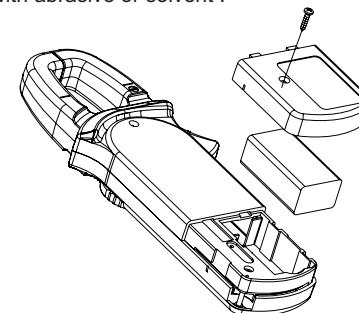

Figure 13
- ① Press the trigger and open clamp head to fetch measured conductor by clamp head then loosen trigger slowly until clamp head is closed completely. Please check if measured conductor is in the middle of clamp head or not. Additional reading error of $\pm 1.0\%$ may be caused if failing to place it in the middle of clamp head;
- ② To remove clamp head away from the current conductor;
- ③ To press REL key for display resetting;
- ④ To repeat step ①;
- ⑤ To gain more correct reading by above measurement steps;
(10) AC current (A) (See Figure 13)
X. Maintenance (See Figure 13)